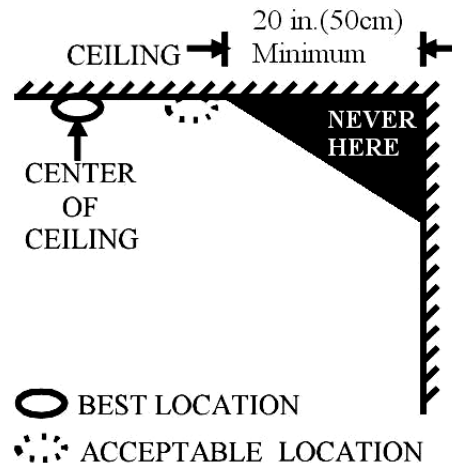

Fig. 4: Recommended best and acceptable locations to mount smoke detectors
- Install smoke detectors as close to the center of the ceiling as possible. If this is not practical, put the detector on the ceiling, no closer than 20 inches (50 cm) from any wall or corner, as shown in Fig. 4.
- Dead air spaces are often at the top of a peaked roof, or in the corners between ceilings and walls. Dead air may prevent smoke from reaching a detector. See **Fig. 4** and **5** for recommended mounting locations.